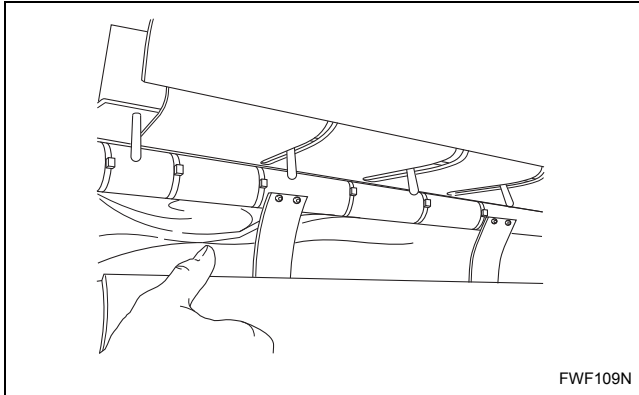

Figure 12
- a. Remove protective paper from below feeding table. Refer to *Figure 12*.